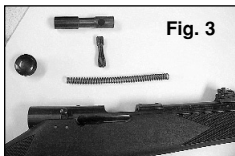

Fig. 3
7. Squeeze the trigger and push the bolt out through the rear of receiver. By pulling trigger, it allows the sear to drop down and allow the bolt to be removed. You should have 4 parts on the table. See fig.3. (Buckhunter models will have a spring follower.)